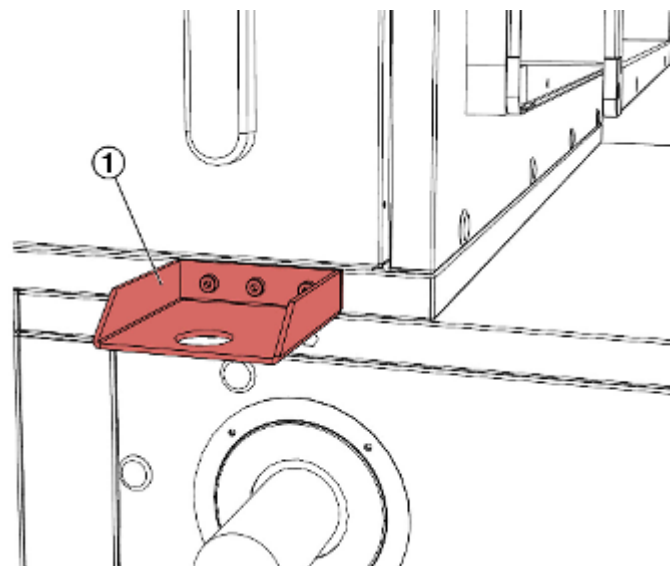

Fig. 17: Removing transport brackets
- ▶ Remove the transport brackets from the upper AHU casing unit (Fig. 17 /1).